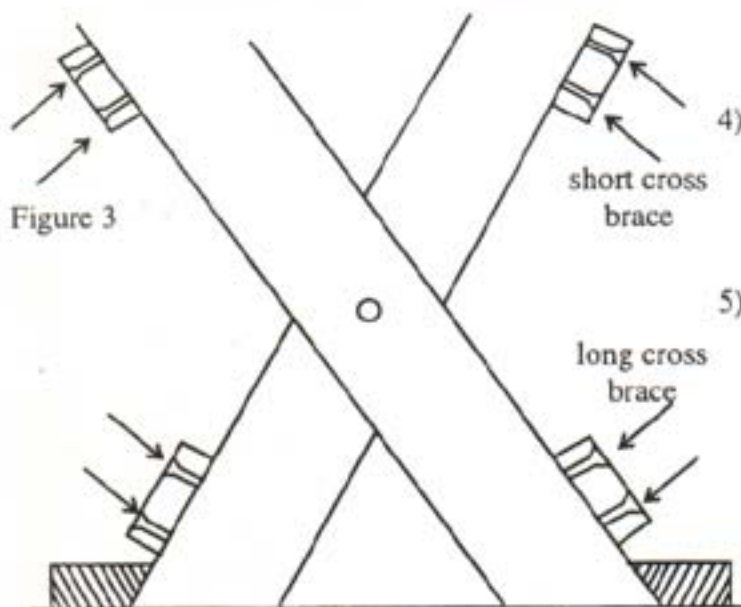

Figure 3
- 3) The two short cross braces are used to secure the two inside legs to each other as in figure 3. Attach the two braces, one near the bottom of the tabletop and the other about half way down the legs. Make sure that the cross braces do not stick out past the edge of the legs or it will impede the ability of the leg assembly to fold completely.